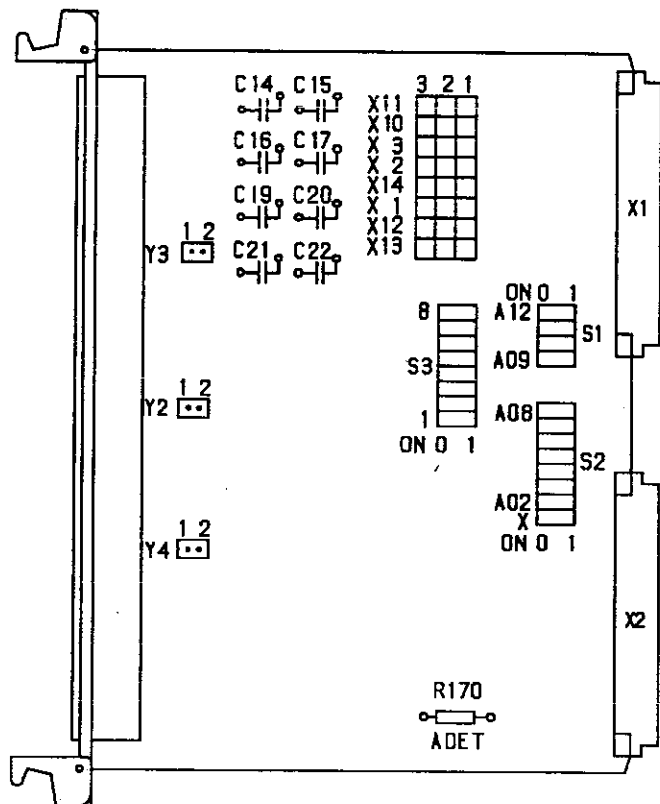

Fig. 13.4-2 Component side (top view)
**Note:** The processor unit processing the interrupt is called a central unit (CU) in DIN 66 264 ZST. The input unit must first be read via the T300 bus (input channels 0.00 ... 0.07) after an interrupt has been initiated before another interrupt can be initiated via one of the 8 channels. An interrupt vector serves to detect the unit, which has initiated the interrupt. The value of the interrupt vector, corresponding to the range pre-given by the processor unit, is set via DIL switch S2 (see chapter 13.4.3.3 and Fig. 13.4-2). The signal delay can be varied by soldering in various capacitors in the range from approx. 1 ms to 5 ms with 8 assembly positions for the 8 input channels capable of the interrupt.
Assembly position ADET (Address detect signal, see fig. 13.4-2) is equipped with R170 (100 Ω) by the factory.